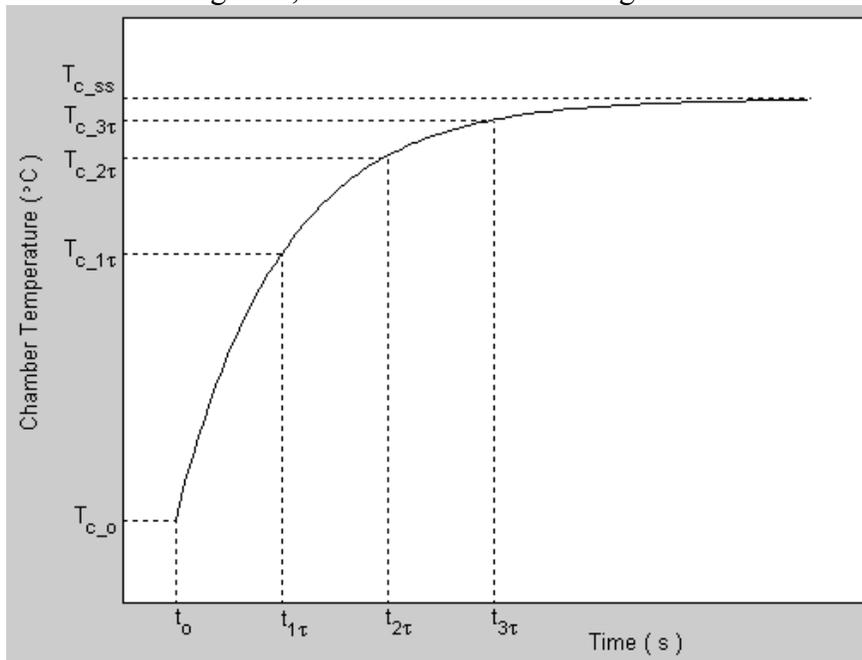

Figure 2 Model Parameter Estimation From A First-Order Step Response During Heating
As defined in Equation [1], the HVAC system steady-state gain and time constant during heating, i.e. K_{ss_h} and τ_h , can be determined experimentally by analyzing the system open-loop response to a step input. A typical first-order temperature response to a heater voltage step input is illustrated in Figure 2, below. The blower voltage is held constant at zero.
During the laboratory session you will obtain the system responses to different amplitudes, K_{v_h} , of step input voltage to the heater. For each experimental step response, the following parameters, as shown in Table 3 and illustrated in Figure 2, should be measured:
The time parameters presented in Figure 2, above, are characterized below such that $t_{1\tau}$ is defined by:
1. Applying the theory associated with first-order systems, determine the chamber temperatures $T_{c_{1\tau}}$, $T_{c_{2\tau}}$, and $T_{c_{3\tau}}$, obtained at the times, $t_{1\tau}$, $t_{2\tau}$, and $t_{3\tau}$, respectively. This is illustrated in Figure 2, above. The expressions obtained for $T_{c_{1\tau}}$, $T_{c_{2\tau}}$, and $T_{c_{3\tau}}$ should be functions of T_{c_0} and $T_{c_{ss}}$.
2. As illustrated in Figure 2, above, the measurement times $t_{1\tau}$, $t_{2\tau}$, and $t_{3\tau}$ can be estimated by locating $T_{c_{1\tau}}$, $T_{c_{2\tau}}$, and $T_{c_{3\tau}}$, respectively, on the experimentally-obtained step response plot and by measuring their corresponding time values. As induced by Equations [4], [5], and [6], each measurement time results in an estimate of the heater open-loop time constant τ_h . Express the resulting time constant estimates, namely τ_{h1} , τ_{h2} , and τ_{h3} , as functions of t_0 and the measurement times $t_{1\tau}$, $t_{2\tau}$, and $t_{3\tau}$, respectively.
- Step 6. Make a screen capture of the obtained step response plot once the response has reached steady-state and join a printout to your report. Your actual response should look similar to the theoretical temperature heating plot presented in Figure 2.